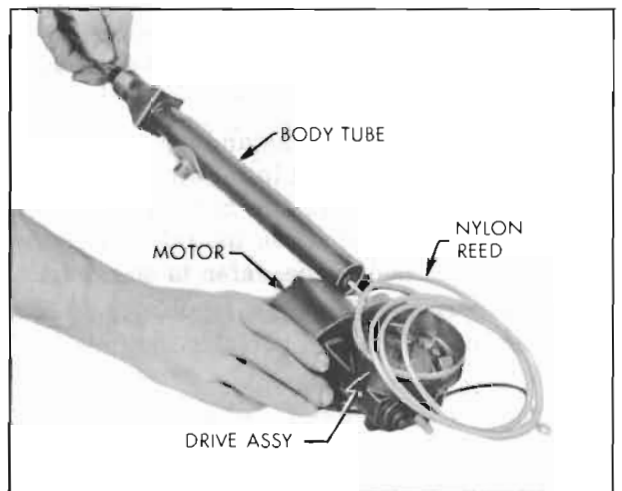

Figure 11-8—Removal of Nylon Reed & Mast Section
6. Pull upward on mast section by holding the upper end of largest diameter chrome plated tube. Do not pull on the body tube as the lead-in wire is soldered and will break on the inside. Pull nylon reed all the way out of the housing. See figure 11-8.
plated tube. Do not pull on the body tube as the lead-in wire is soldered and will break on the inside. Pull remaining nylon reed all the way out of the housing. See Figure 11-8.